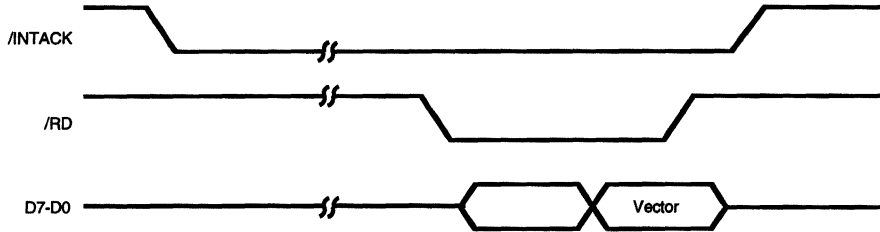

**Figure 21. Write Cycle Timing**
**Write Cycle Timing.** Figure 21 illustrates Write cycle timing. Addresses on D//C and the status on /INTACK must remain stable throughout the cycle. If /CE falls after /WR falls, or if it rises before /WR rises, the effective /WR is shortened. Because many popular CPUs do not guaran-